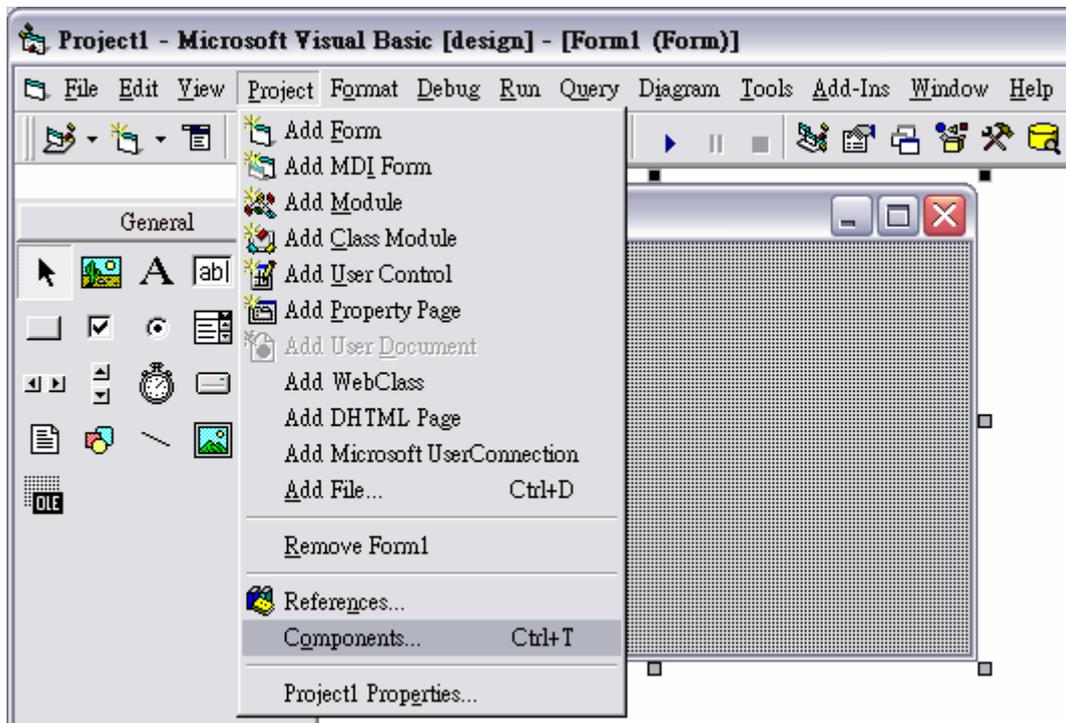
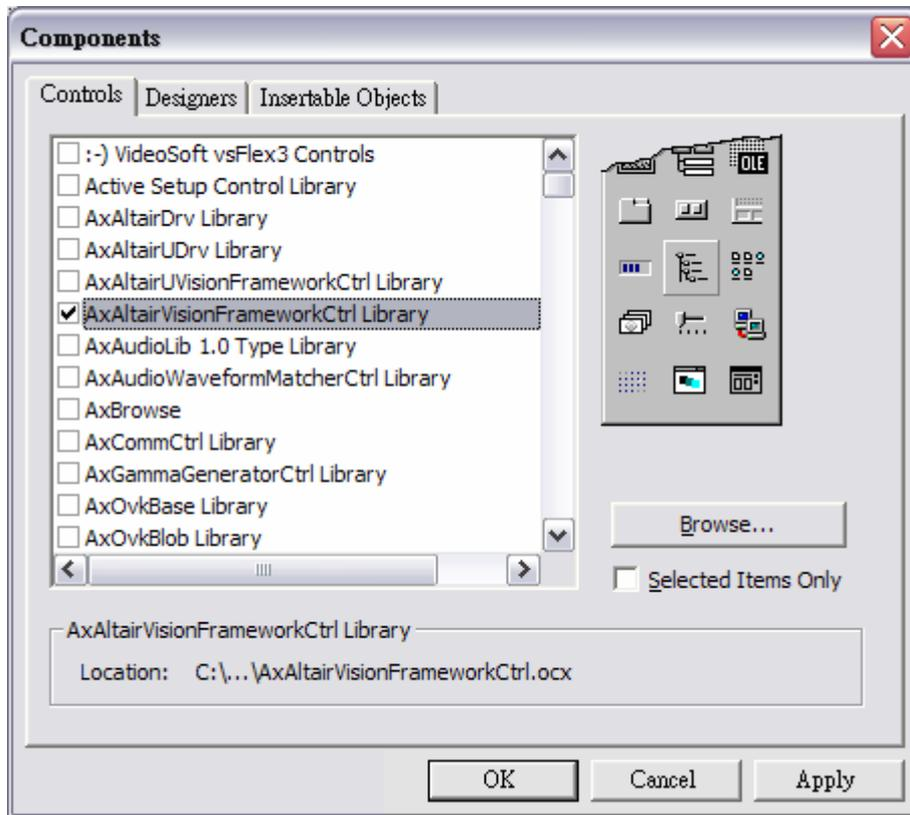

Figure 1
Figure 2
1. Start Microsoft Visual Basic version 6.0 or Visual C++ 6.0 compiler as shown in Figure 1. (Upgrading Visual Basic or Visual C++ to service pack 5 or later is suggested). Here, we use Microsoft Visual Basic 6.0 as the reference platform.
2. Choose menu **Project** → **Components** → **Figure 1** → **Check AxAltairVisionFrameworkCtrl Library** → **OK Button** as shown in Figure 2.